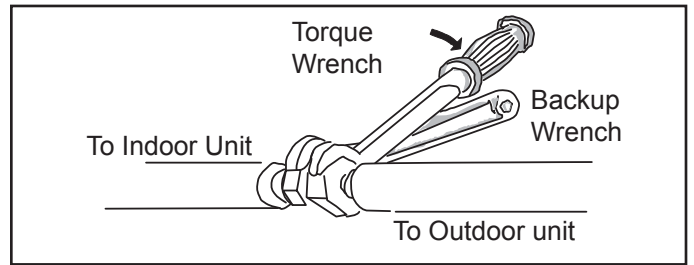

Figure 19. Tighten Flare Nut
6. Once snug, continue another half-turn on each nut which should create a leak-free joint. A torque wrench may be used to tighten flare nuts using table 2 recommendations. See Figure 19. **Do not over-tighten a flared joint. Flared connections should always be accessible and must be insulated to prevent condensation.**